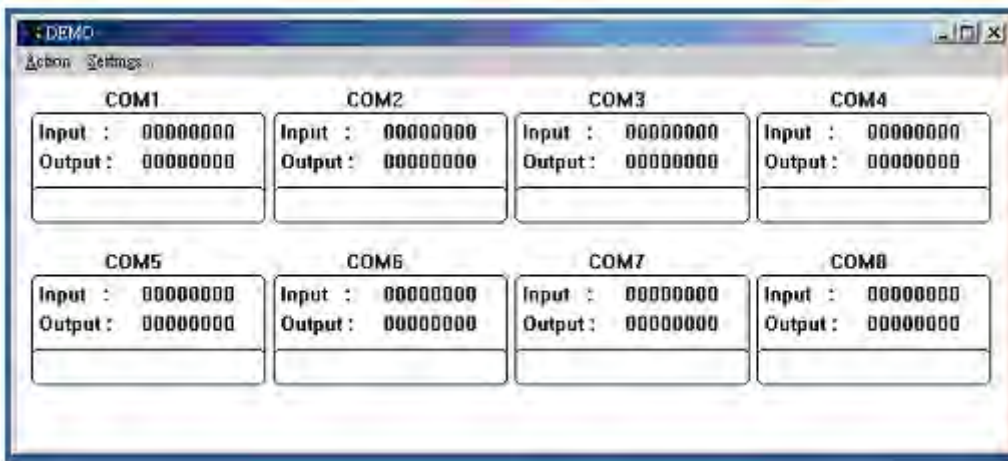

Fig.1
STEP1:Run the “DEMO.EXE” utility (See the Figure 1).